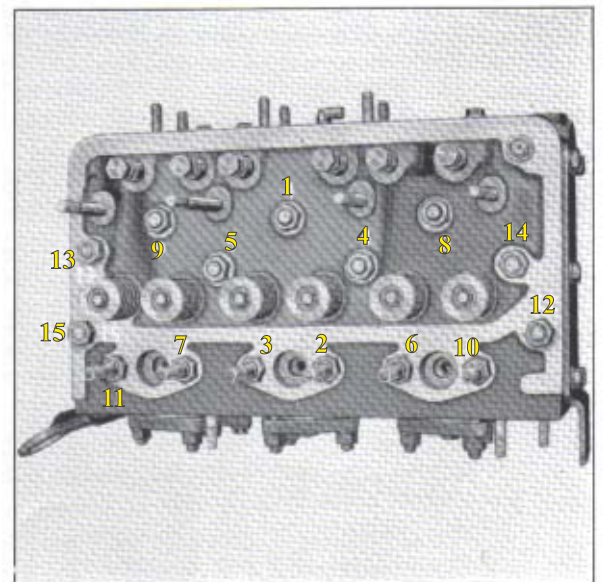

Fig. 2
15. Unscrew the fifteen nuts retaining the cylinder head to the cylinder block in a sequence opposite to that shown on Fig. 2, using the special deep socket (Tool No. T.6095).
4. Refit the cylinder head nuts and tighten in the correct order as shown on Fig. 2, to a torque of 55 to 60 lb. ft.
16. Run the engine until its normal working temperature is reached, remove the rocker shaft and tighten the cylinder head nuts down to a torque of 55 to 60 lb. ft., using the sequence shown in Fig. 2.